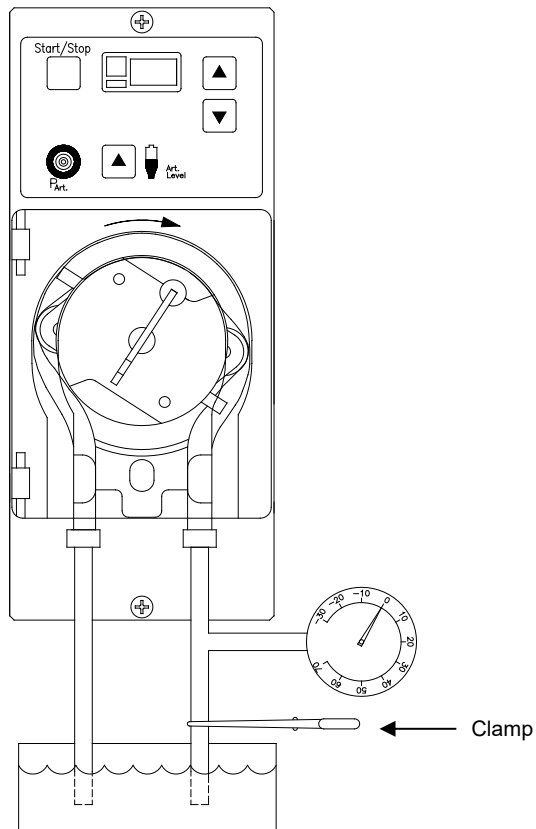

Figure 9. Blood Pump Rotor Occlusion Test
- Connect a pressure gauge to the bloodline in the pump (See Figure 9) and allow the rotor to pull up $37^{\circ}\text{C} \pm 1.5^{\circ}\text{C}$ water. Let this fluid flow past the pressure gauge long enough to clear out air.
- With the pump running at 600ml/min, clamp the outlet so that the pressure gauge is between the output of the pump and the clamp (See Figure 9). The peak pressure on the pressure gauge must be between 25 and 35psi. If the peak pressure is out of range, replace the blood pump rotor springs (part number 650174).